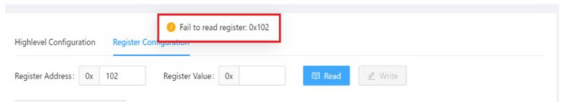

Figure 32. Error Message when Configuring Individual Register
6. If a **Fail to read register** or **Fail to write register** pop-up appears (see Figure 32), check whether the device is disconnected or broken. If it still fails, reopen the VSM Client software and restart the EVAL-VSMUCZ board.